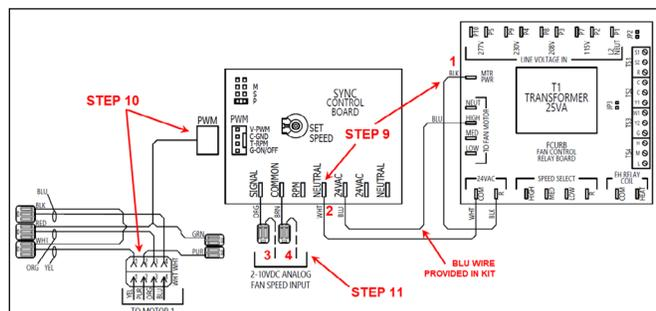

Figure 54 - Sync PWM Electrical Connections
CONNECT POWER AND FAN RELAY TO SYNC PWM (See Figure 54)
CONNECT MOTOR CONTROL SIGNAL TO SYNC PWM (See Figure 54)
CONNECT 2-10VDC SIGNAL WIRES TO SYNC PWM (See Figure 54)
- Ensure that the new wires have been connected as specified in Figure 54.